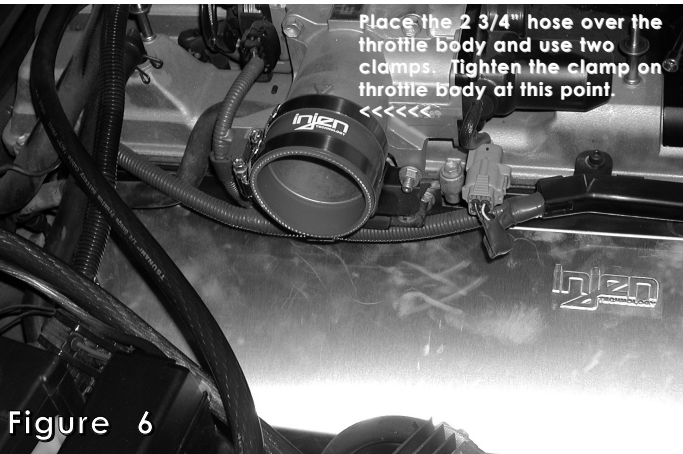

Figure 6
- 5- Take the 2 3/4 straight hose and place it over the throttle body. Use two clamps and tighten the clamp on the throttle body at this point. (See fig. 6)